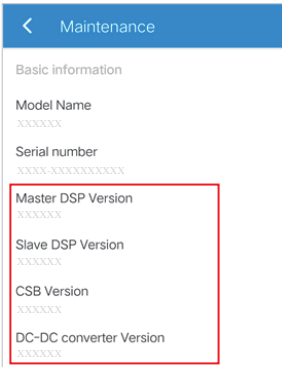
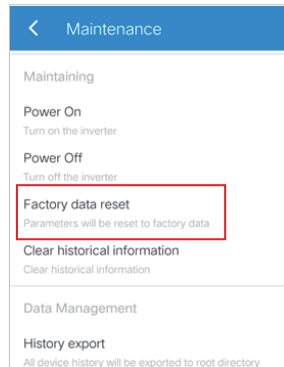

Figure 4-6 Basic information
Figure 4-7 Maintaining
2. Make sure all inverters in parallel have the same firmware version by verifying the ‘DSP’, ‘CSB’, and ‘DC-DC converter’ version numbers on App, as shown in *Figure 4-6*. It is recommended to restore the firmware before three-phase connection to ensure the same parameter for each inverter, as shown in *Figure 4-7*.